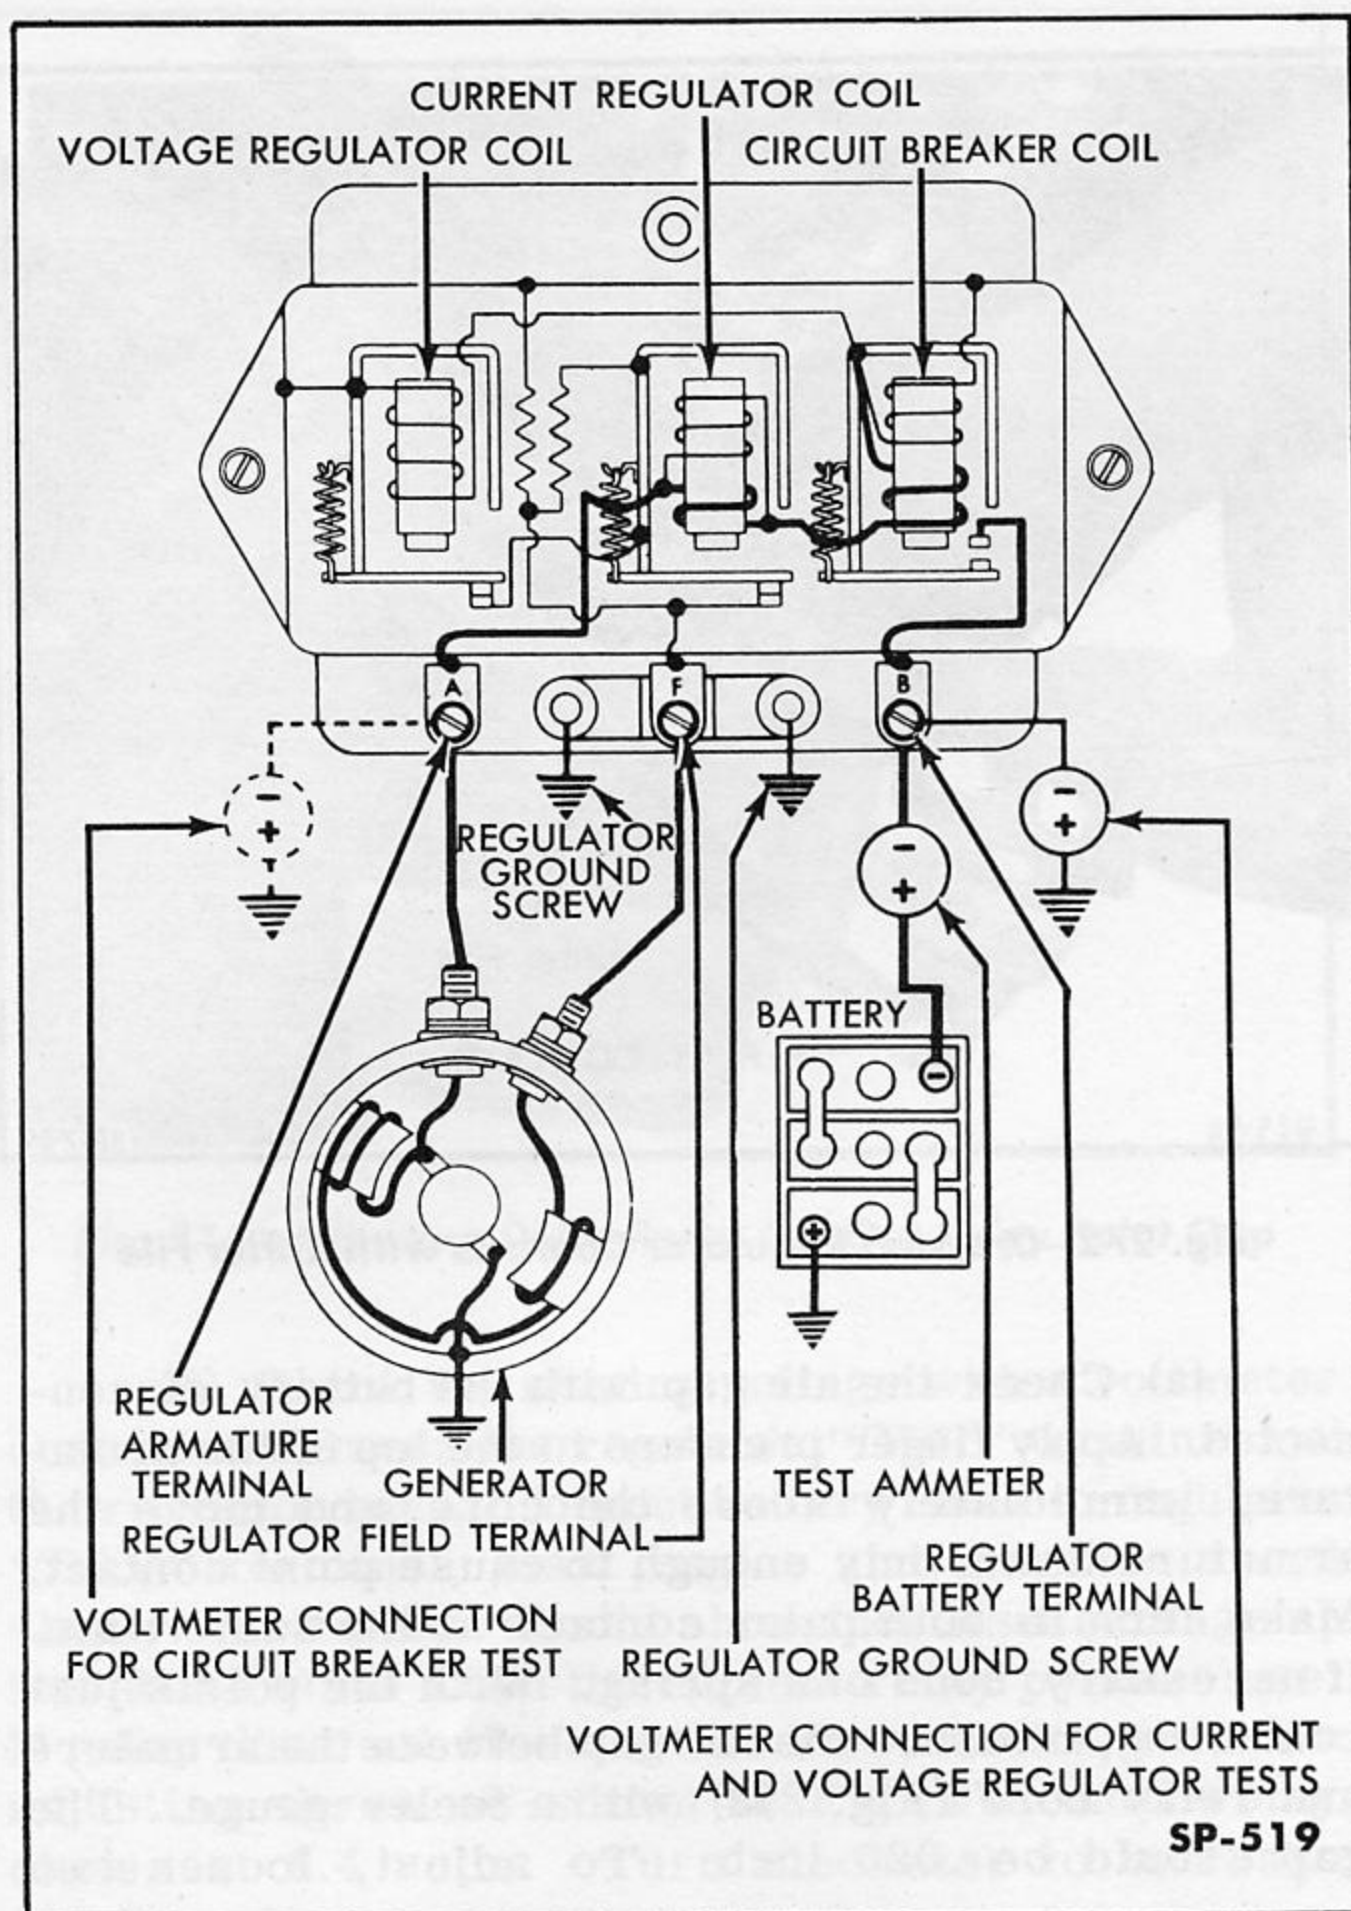
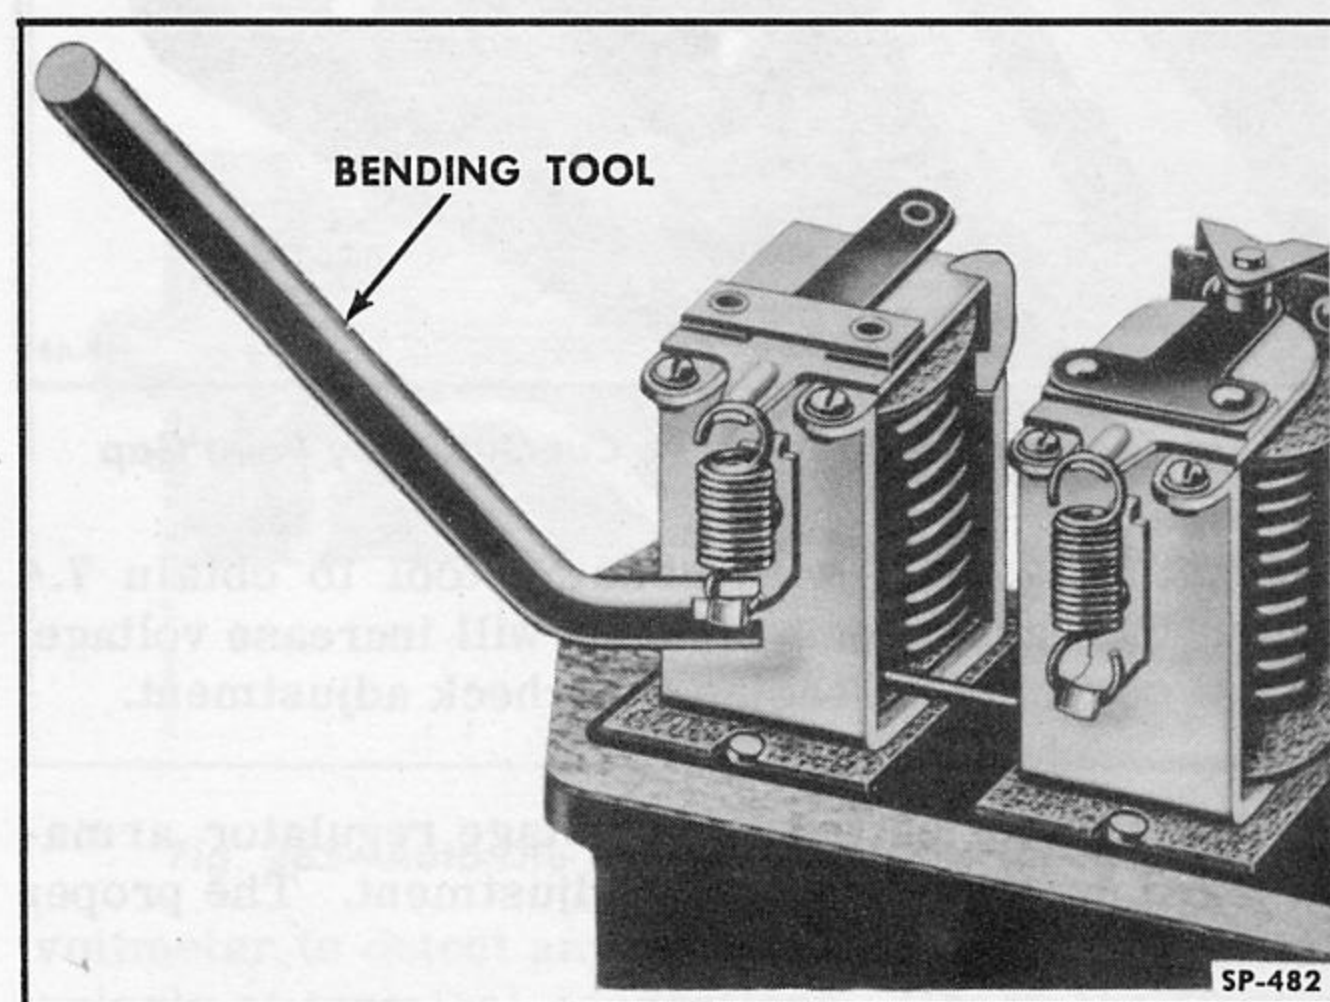

Fig. 270—Auto-Lite Generator Regulator Circuit Diagram
Fig. 282—Adjusting Auto-Lite Regulator Spring Tension
The following procedures should be used to adjust Auto-Lite generator regulators. The voltmeter and ammeter hook-ups for the following tests are shown in Fig. 270 on the Auto-Lite regulator circuit diagram.
(b) Check the closing or cut-in voltage by connecting a voltmeter between the regulator "A" terminal and the regulator base. Start the engine and slowly increase the speed. The voltmeter should show increased voltage up to 6.4 - 7.0 volts. If not, bend the spring bracket (Fig. 282) with a bending tool included in Tool Kit C-828 until relay closes at 6.8 volts. Bending bracket down to increase spring tension will raise the cut-in voltage.
bracket (Fig. 282) with bending tool to obtain 7.4 volts. Increasing spring tension will increase voltage. Install cover, start engine and check adjustment.
4. CHECK AND ADJUST CURRENT REGULATOR. The current regulator is checked with the voltmeter and ammeter in the circuit as illustrated in Fig. 270. Place a variable resistance across the battery and adjust the resistance until voltage falls to 6.9 volts, after engine is started. With the regulator cover in place and the regulator at normal operating temperature, increase engine speed to equivalent of 35 MPH in high gear, or the bench test generator to 3000 RPM. The current regulator should limit the generator output to 34-36 amps. To adjust output amperage, bend the current regulator armature spring bracket with a bending tool (Fig. 282). Increasing spring tension increases the current.